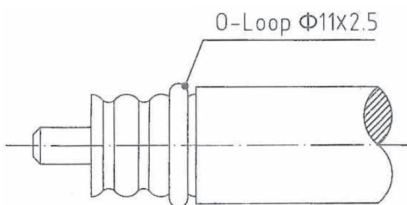

Fig3
5. Apply a small amount of silicone O-ring grease onto the rear nut inner O-ring and position the O-ring on the rear trough of the cable **See fig. 3**